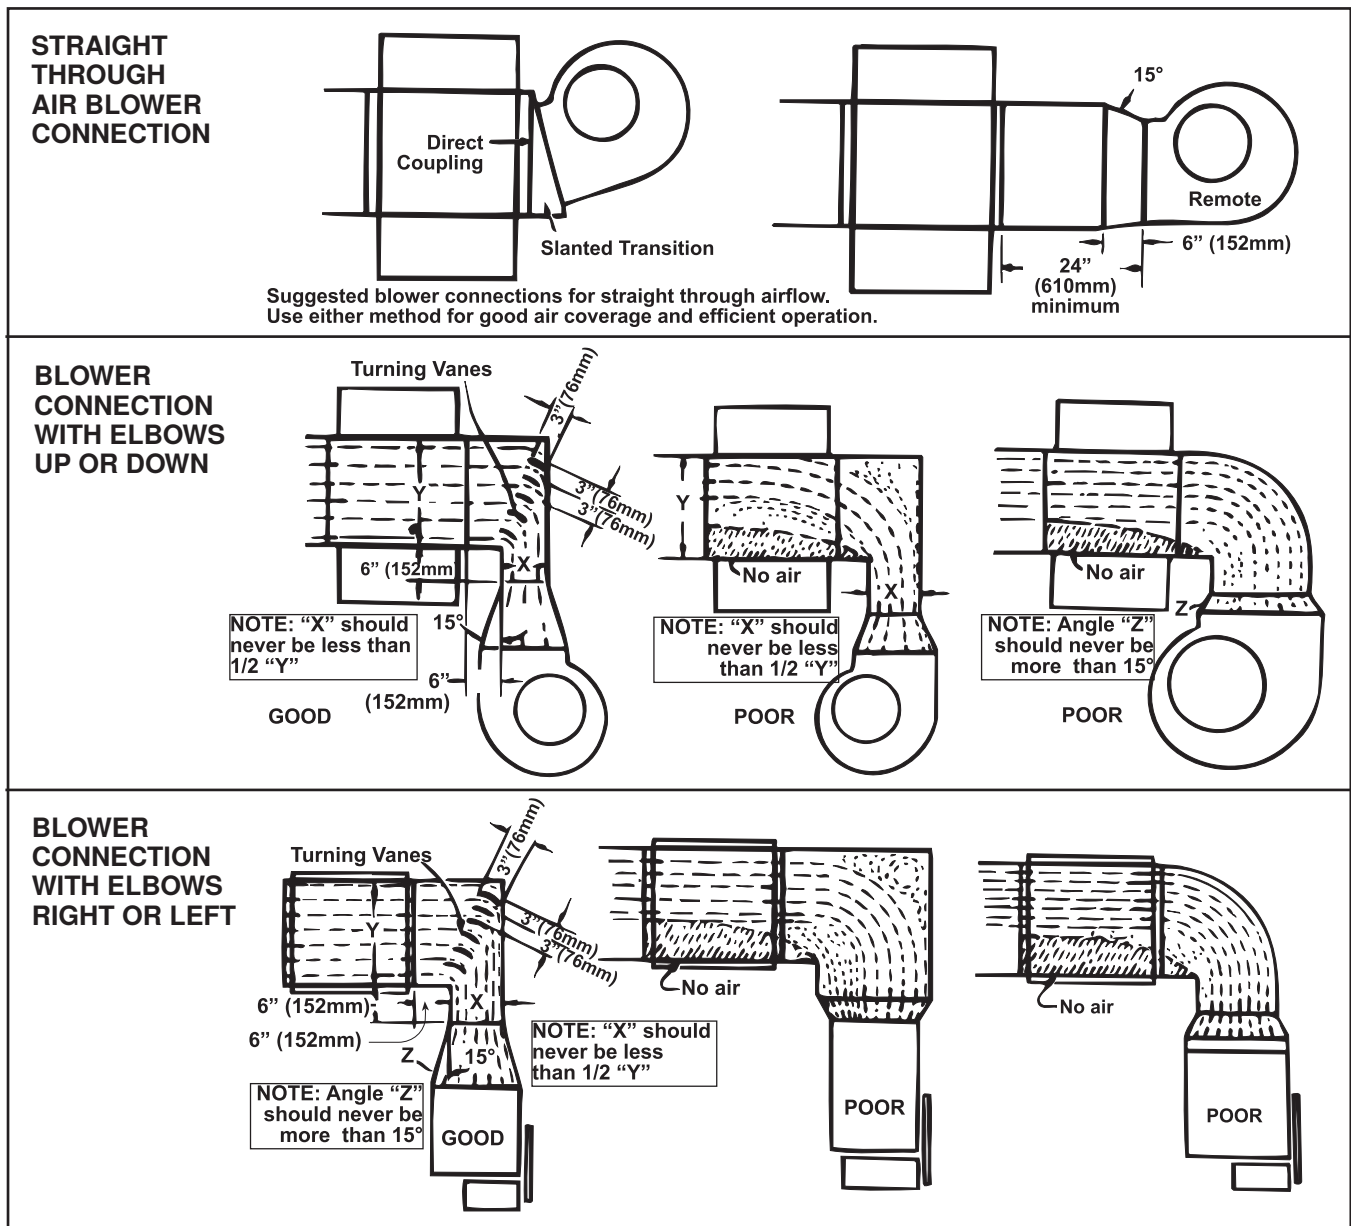

Figure 14. Duct Furnace Blower Connections
- Proper arrangements of blower and duct furnace with respect to angle of approach of the duct connection and the arrangement of the discharge opening of the blower are shown in Figure 14.